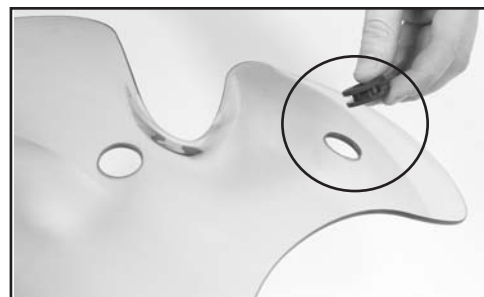

Figure 3
6. Insert grommets (6) into windshield. **Figure 3**